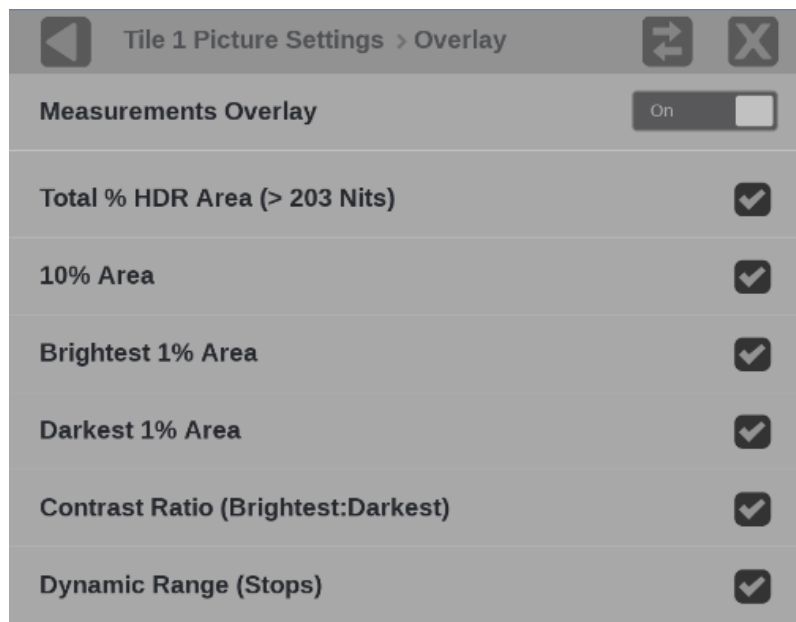

Figure 118: Picture Settings with Measurement Overlay menu
3. Set Measurements Overlay to **On**. (See Figure 118.) This turns on the measurements overlay in the Picture application. After it is visible, the overlay window can be dragged to any location in the Picture tile.